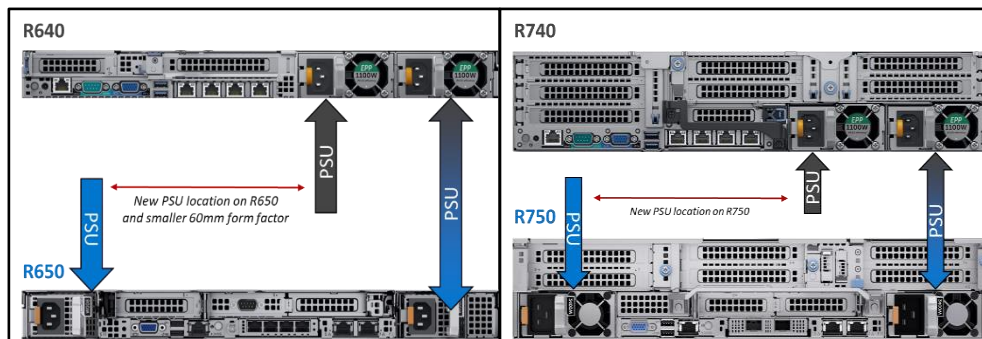

Figure 2 – PowerEdge R650/R750 PSU architecture compared to R640/R740
**Smaller PSU Form Factor and Location** – To create space for a thermal architecture redesign, PSUs have been relocated to the outside edges of the 1U and 2U server chassis. This provides purposeful exhaust lanes for hot airflow from the CPUs to prevent overheating of downstream hardware components such as PCIe cards, OCP or PSUs. In the 1U systems a new, narrower, 60mm form factor PSU is implemented to further increase the exhaust path space. The new PSU layout and form factors are supported for both Intel and AMD next-generation PowerEdge servers. See Figure 2 below for illustrations of this new PSU layout.